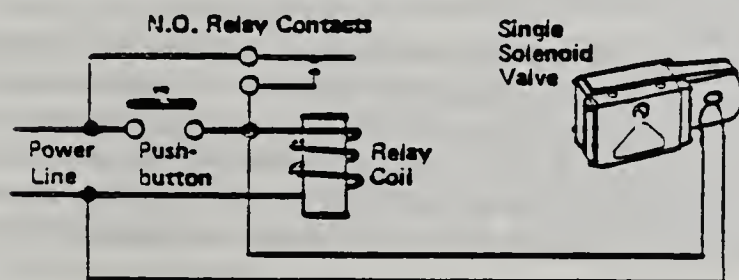

FIGURE 1-23D. Current can be maintained on spring return or spring centered solenoid valves.
**Figure 1-23D. Electrical Lock-In.** An important use of a relay is to hold current on a solenoid valve after it has been momentarily energized from a pushbutton. To release the relay and solenoid valve, the power circuit must be momentarily interrupted. Details are given in the following description and in many circuits to follow, starting with Figure 3-3, Page 40.